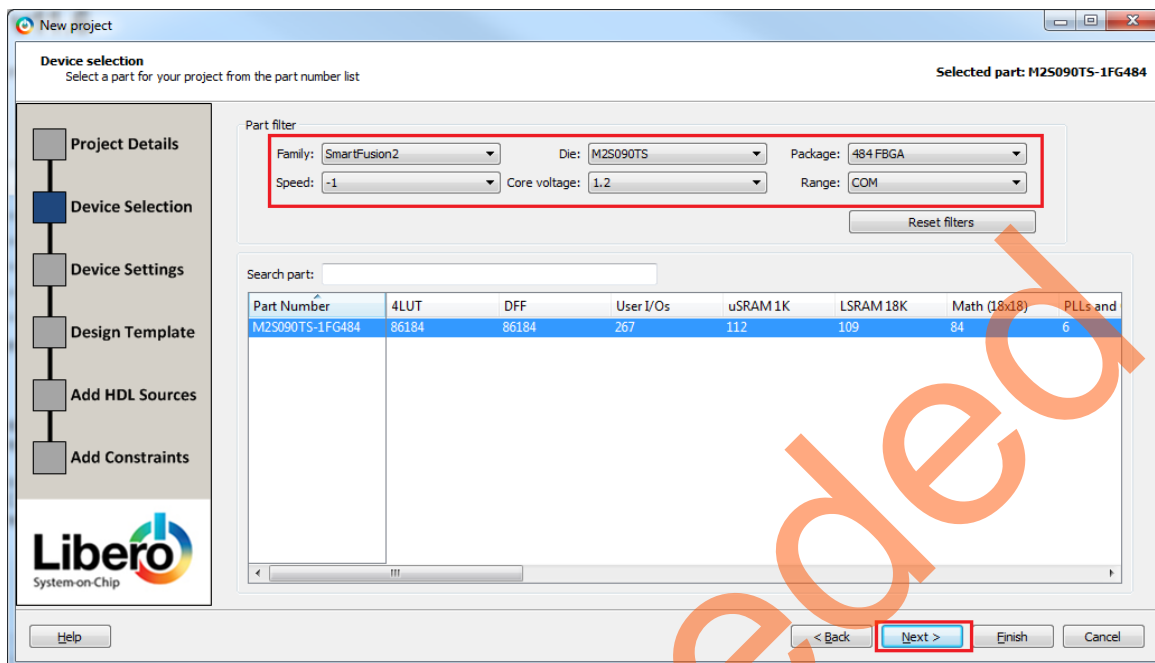

Figure 3 • Device Selection Window
4. Click **Next**. In the **Device Selection** window, select the information displayed in Figure 3 on page 7. In the Part Filter, select the values using the drop-down lists, as shown in Table 2.